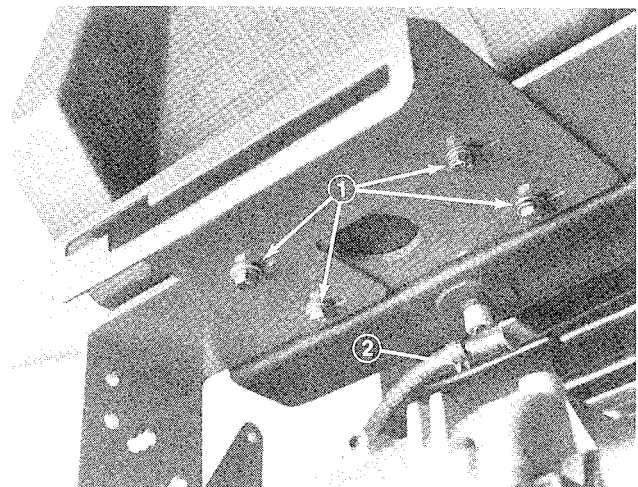

Figure 2
3. Secure fuel line to tank fitting with hose clamp (Fig. 2).
3. Move shift lever to reverse and 4th gear. Control panel mounting holes are slotted to enable it to be moved from side to side (Fig. 2). Position control panel as needed to achieve full shift range. Tighten mounting screws to a maximum of 90 in - lb. **DO NOT OVER TIGHTEN.**